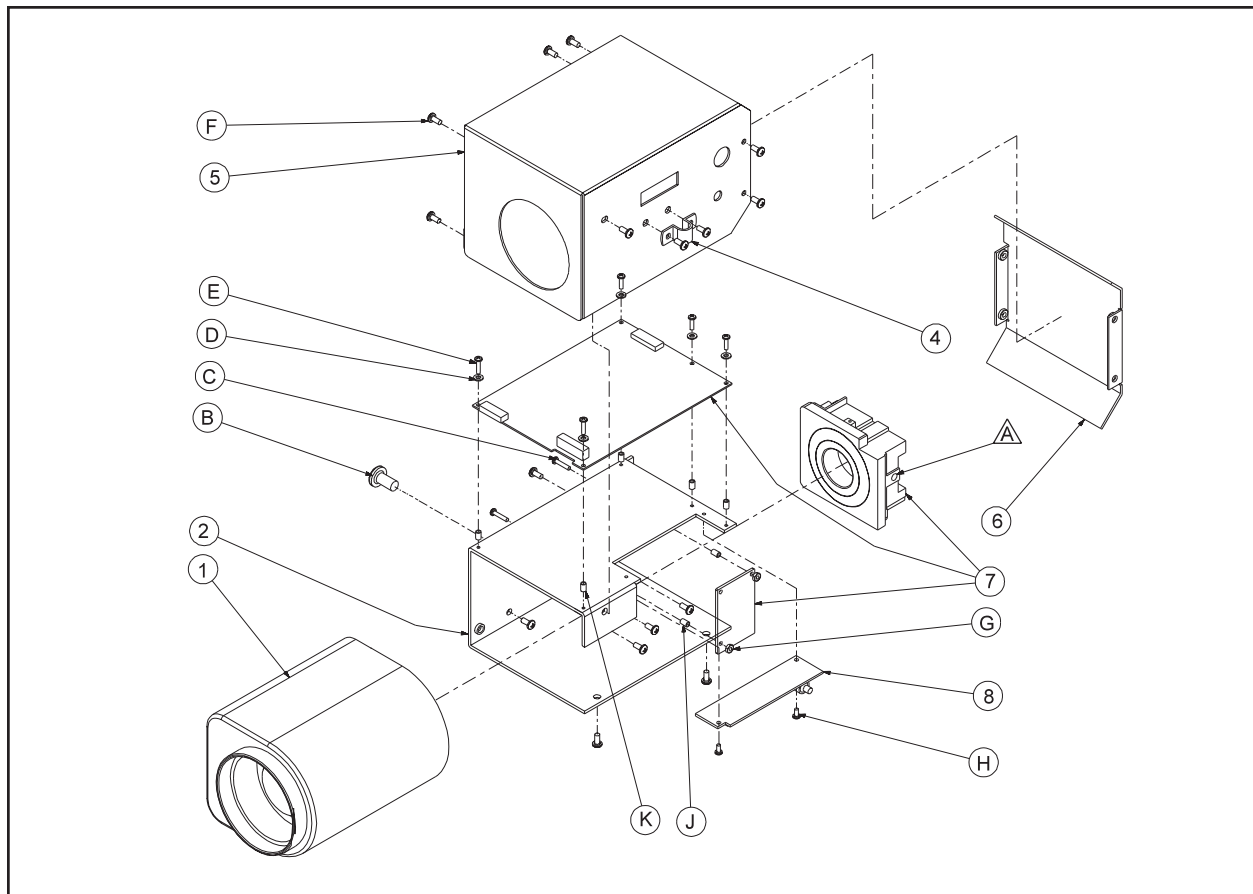

Figure 6. TVH6 Camera/Lens Combination Exploded Assembly Drawing
7.1 MECHANICAL PARTS LIST (Figure 6)